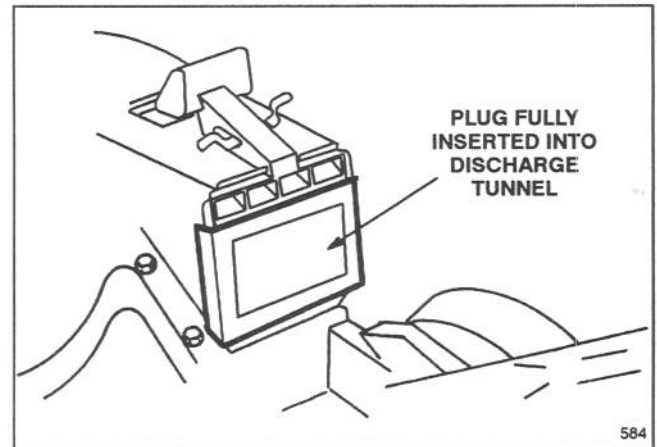

Figure 7
3. Push the plug all the way in until it fits securely into the tunnel (Fig. 7). Release discharge door handle to secure plug in tunnel.